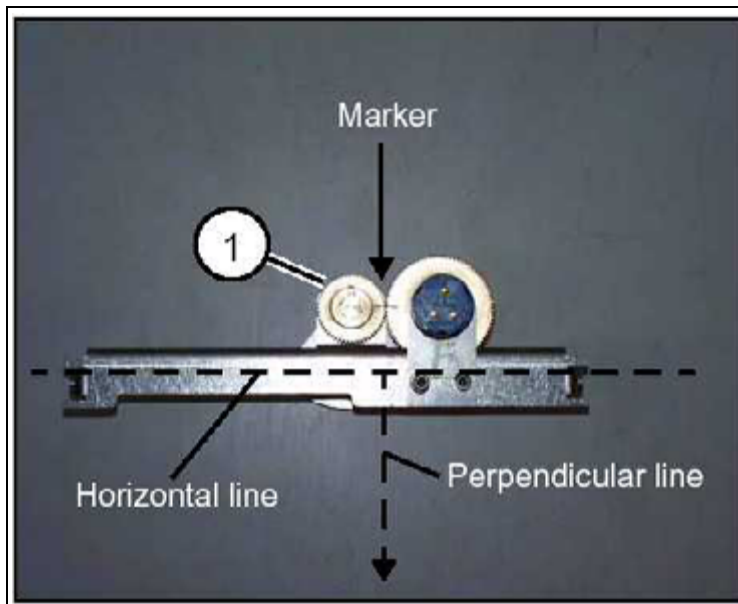

Fig. 38: Angulation part
When the angulation part is vertical, the markings on the two toothed belts must coincide (see (Fig. 38 / p. 80)).
1. If the toothed wheel (1/Fig. 38 / p. 80) was turned several times during transport, the perpendicular part must be turned prior to installation in one direction until the markings coincide again when the angulation part is vertical.